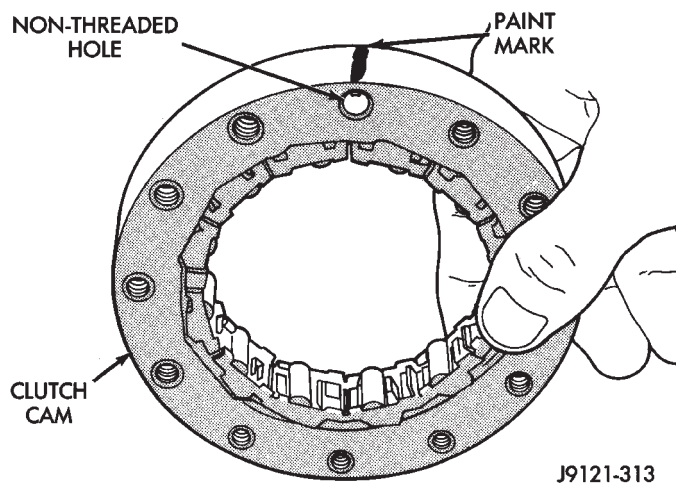

Fig. 35 Marking Location Of Non-Threaded Hole In Clutch Cam
(4) Inspect bolt holes in overrunning clutch cam. Note that one hole is **not** threaded. Identify location of non threaded hole with paint mark for assembly reference (Fig. 35).
(5) Set assembly aside for final installation after overhaul is complete.